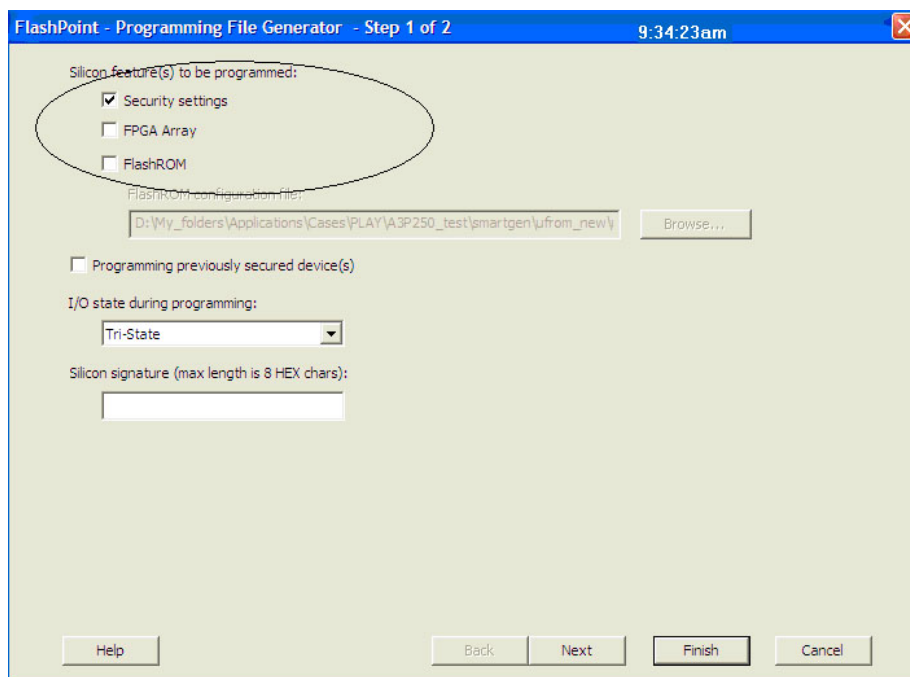
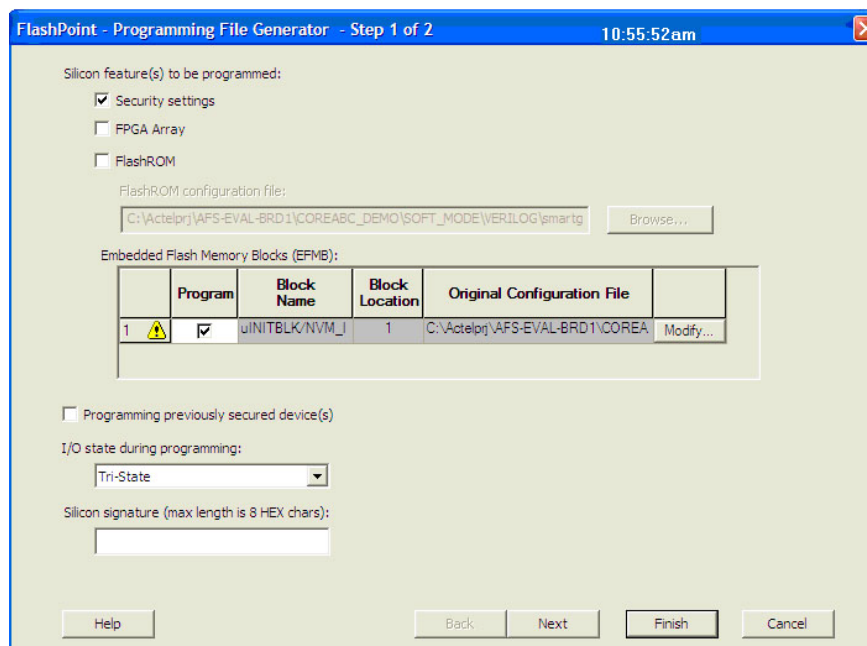

Figure 11-14 • Programming IGLOO and ProASIC3 Security Settings Only
Figure 11-15 • Programming Fusion Security Settings Only
1. Select only the **Security settings** option, as indicated in Figure 11-14 and Figure 11-15 on page 280. Click **Next**.